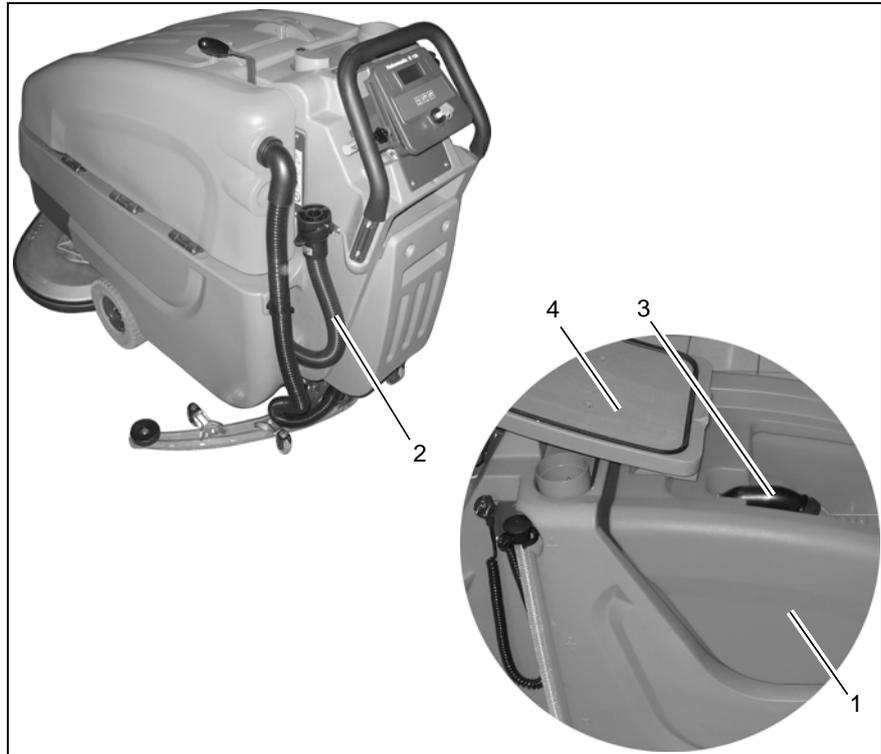

Fig.9
Clean soiled water tank (Fig. 9/1) at daily intervals, as required or upon acoustic signal (increased suction turbine speed).
4. Take drain hose (Fig. 9/2) from holder and empty soiled water tank completely.
Clean soiled water tank (Fig. 9/1) at daily intervals or as required.
2. Open tank lid (Fig. 9/4) of the soiled water tank.
3. Take drain hose (Fig. 9/2) from holder and empty soiled water tank completely.
Check suction filter (Fig. 9/3) for function at daily intervals and clean if required. The suction filter is clipped and can be easily removed.